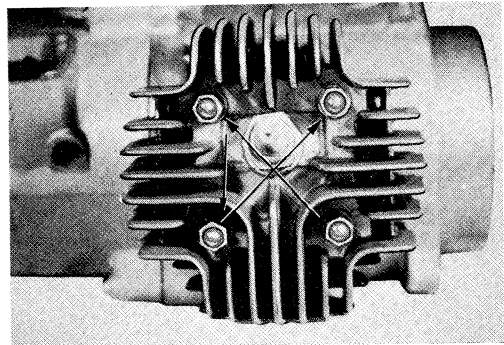

Fig. 5-5-25
20. When installing the cylinder head, tighten the 4 cylinder head nuts diagonally just the same as when loosening. (Fig. 5-5-25)